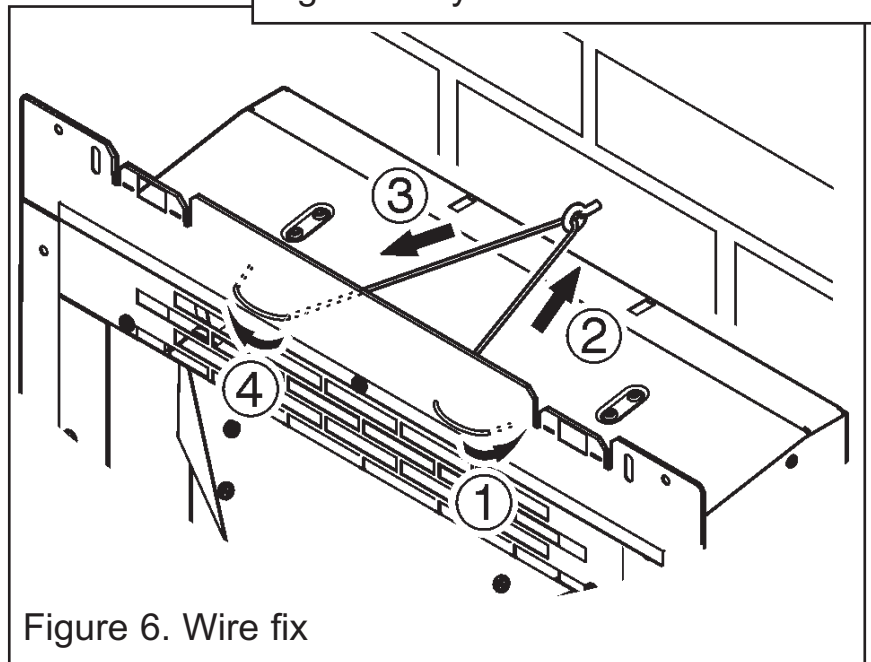

Figure 6. Wire fix
- outside small hole on the right side of the heater (See point 1 - figure 6).
8. Thread the other end of the wire through the remaining small hole to the left. Continue to push the wire through this hole until there is only a small loop of wire at the front of the heater (See point 2 - figure 6).
9. At the back of the heater there will be a long piece and a short piece of wire coming through the two holes. Hold the short piece and give the long piece a gentle tug. This will secure the steel wire. Take the long piece and thread this through the eyescrew in the back of the fireplace opening (See figure 6).
10. From the back of the heater thread the long piece of steel wire through the inner small hole on the left hand side of the heater (See figure 6).
11. Locate the heater in the fireplace opening, then from the front of the heater, gently pull the steel wire on the right hand side to gather up the excess until the heater is secure. Thread the wire through the remaining small hole to lock the wire and heater in place (See point 4 - figure 6).